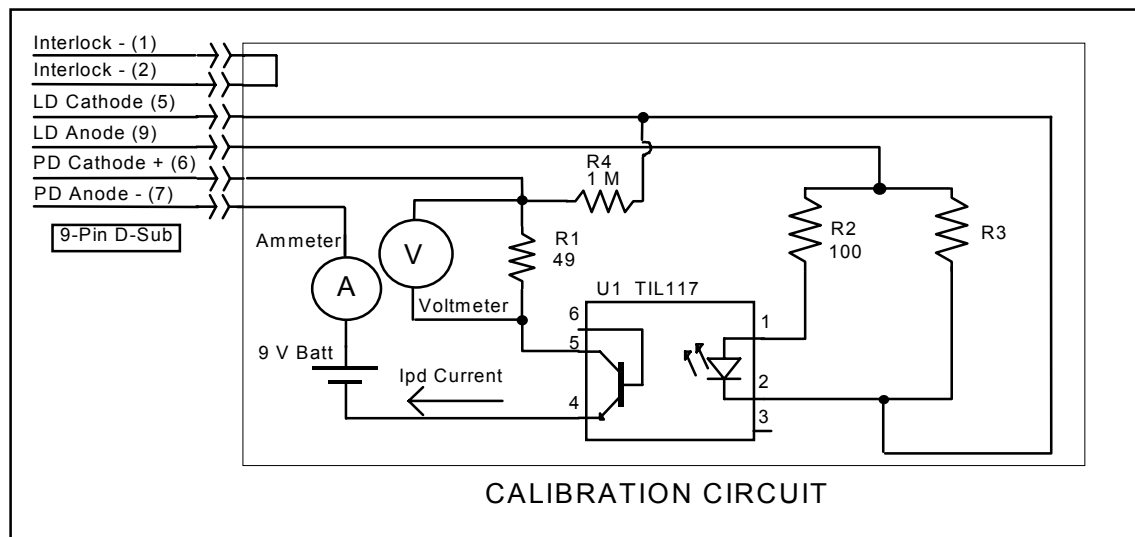

Figure 5.1 I_{PD} Calibration Circuit
- a. Select the CSM-39050 to be calibrated by pressing the appropriate (ADJUST) switch. With the LASER output off, connect a calibrated ammeter to the PD Anode output of the CSM-39050, and connect the circuit of Figure 5.1 to the LASER and PD outputs.
- a. With the LASER output off, connect a calibrated ammeter to the PD Anode output of the CSM-39050, and connect the circuit of Figure 5.1 to the LASER and PD outputs.
If a calibrated ammeter (with 0.1 μ A resolution) is not available, place a calibrated DMM (with 0.1 mV resolution) to measure the voltage across the resistor, R1, as shown in Figure 5.1. Calculate the current in the following steps by using Ohm's Law: